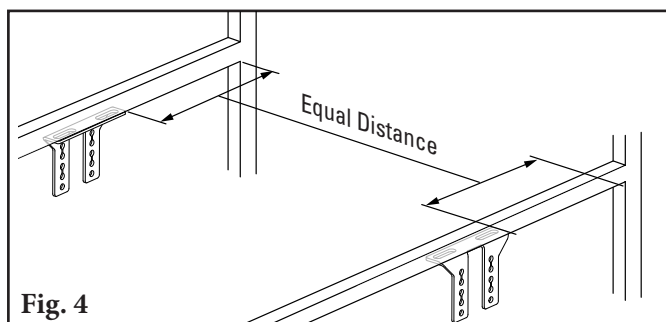

Fig. 4
- 4. Square the mounting brackets.** Measure from a fixed location on both sides to ensure alignment (Fig. 4).